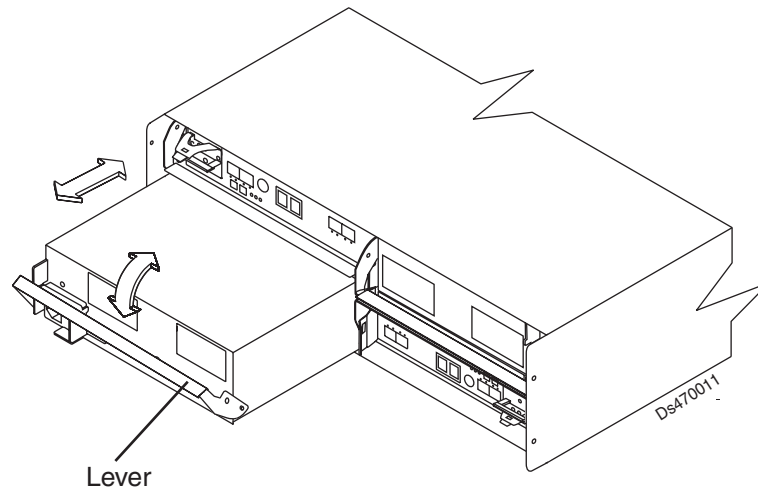

Figure 15. Removing a power supply and fan unit
2. Slowly pull the lever away from the chassis to remove the power supply and fan unit, as shown in Figure 15 on page 35.